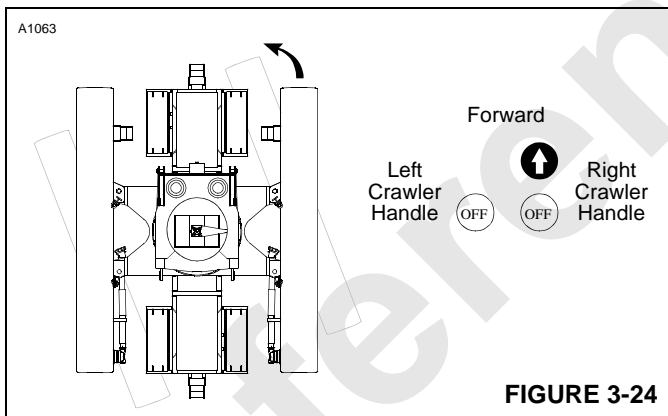

FIGURE 3-24
- Avoid sharp turns (Figure 3-24) if possible.
8. To make a SHARP LEFT TURN (Figure 3-24), move right crawler handle to front from off and leave left crawler handle in off; crane will pivot about left crawler.